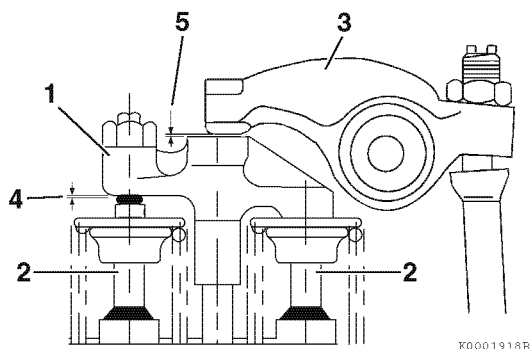

Figure 6-80
The 4-valve cylinder head operates two valves with a single rocker arm by employing a valve bridge (1, **Figure 6-80**) between the two valves (2, **Figure 6-80**). Clearance (4, **Figure 6-80**) between the valve bridge and valves must be set before adjusting the clearance (5, **Figure 6-80**) between the rocker arm (3, **Figure 6-80**) and valve bridge.
3. Make sure there is clearance (5, **Figure 6-80**) between the valve bridge (1, **Figure 6-80**) and the rocker arm (3, **Figure 6-80**).